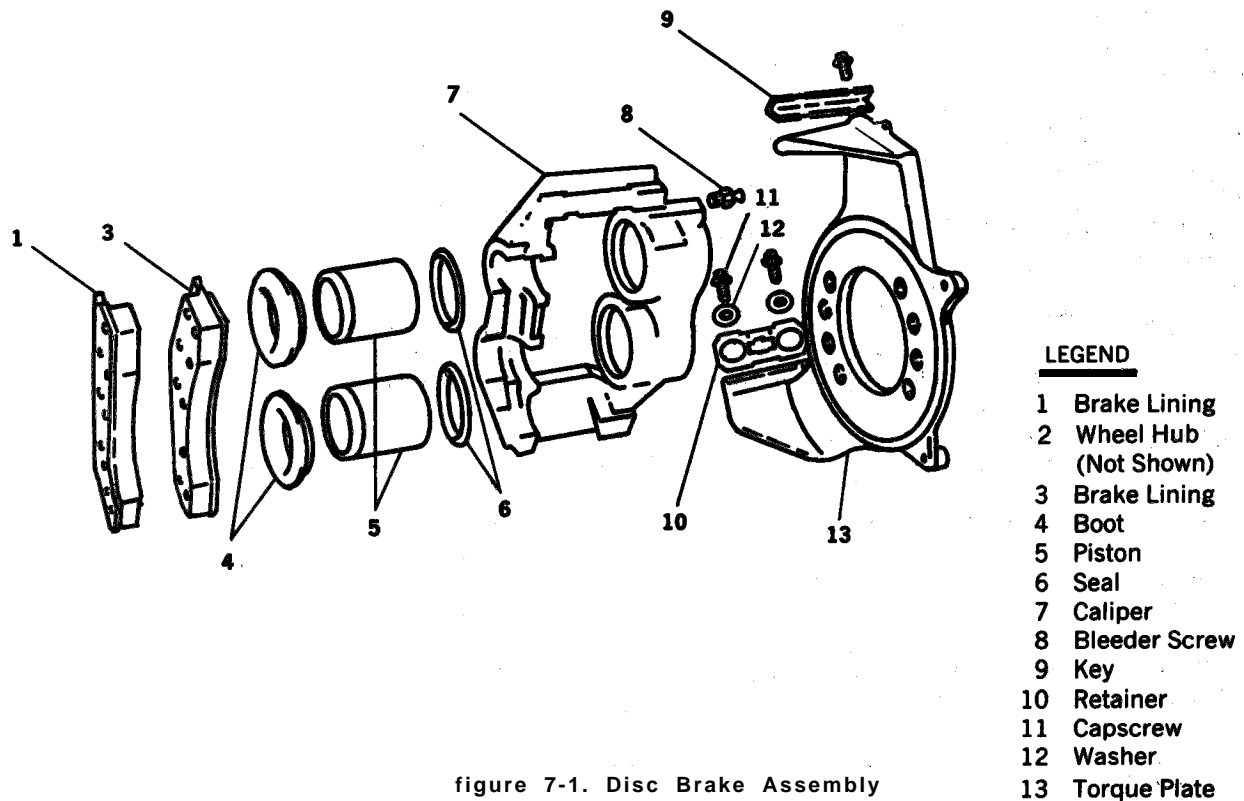

figure 7-1. Disc Brake Assembly
c. Disconnect brake hose at frame, then at fitting on caliper (7, figure 7-1) and cap end of hose to prevent dirt from entering.
d. Remove capscrews (11), washers (12), key (9), and retainer (10).
e. With caliper butted against support rail opposite key end, rotate retainer end up and away from torque plate (13) and off wheel hub (2).
f. Remove brake lining (1) farthest from pistons (5) by aligning pad in removal slot provided in caliper abutment rails. Remove brake lining (3). Drain brake fluid from caliper.
a. Clean all metal parts except caliper (7, figure 7-1) with a clean cloth dipped in cleaning solvent P-D-680.
a. Dip new seal (6, figure 7-1) in clear heavy duty brake fluid, and install in cylinder groove of caliper (7). Gently work seal around cylinder bore with finger until properly seated into inboard seal groove. Ensure seal is not twisted nor rolled in groove.
b. Install new dust boot (4) in cylinder outboard groove. Gently work boot around until properly seated.
c. Coat outside diameter of piston (5) with clean heavy brake fluid. Use small flat plastic or wood tool to gradually work dust boot around piston.
e. Install new brake linings (1 and 3) in caliper (7) by inserting through slots in caliper abutment rails. Install inboard brake lining (3) first with metal side against pistons (5). Install outboard brake lining (1) with lining side facing inboard lining.
f. Lightly lubricate brake rails on caliper with grease. Place caliper (7) over wheel hub (2) while spreading brake linings (1 & 3) apart. Rest caliper on rail opposite key end and rotate in place positioning caliper and support rails.
g. Install key (9) and retainer (10) with capscrews (11) and washers (12). Torque capscrews (11) from 12 to 20 foot pounds.
h. Remove cap from hose and connect hydraulic hose fitting at caliper (7).